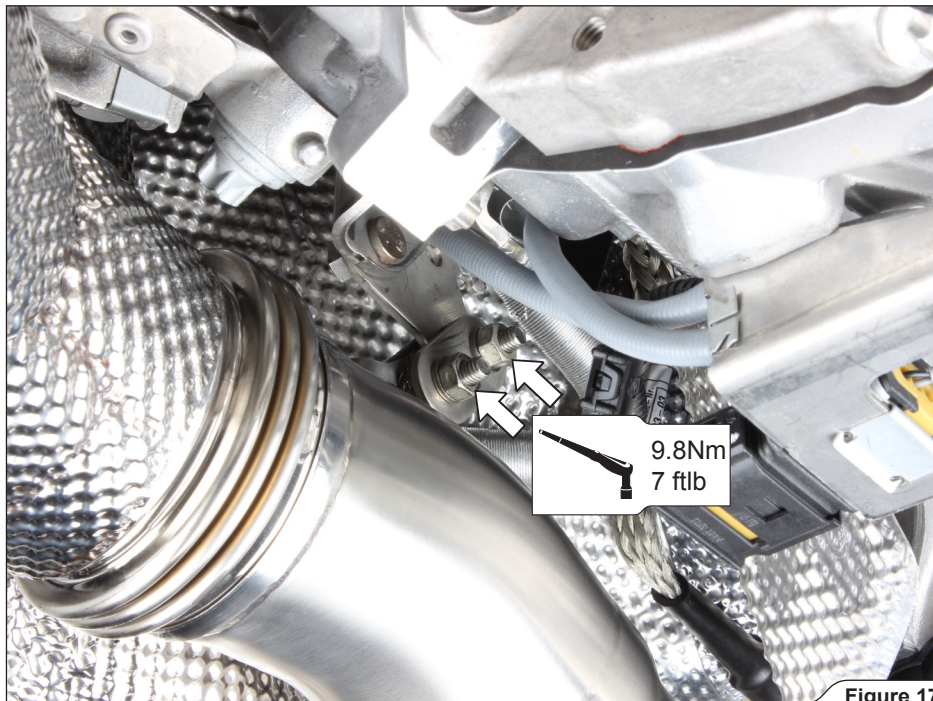

Figure 17
2. Tighten the lower downpipe onto the transmission, using the stock bracket (**Figure 17**).